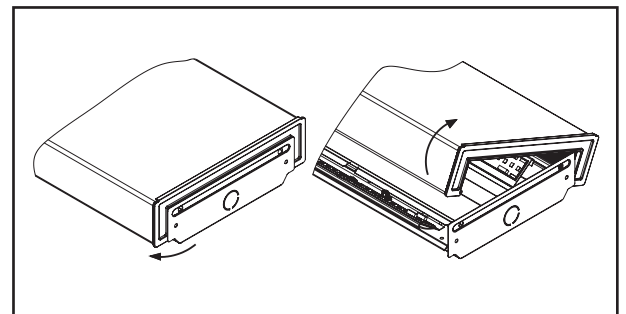

Figure 1.
2. Remove lens by pulling from one side of the fixture and hinge on the other (Figure 1).